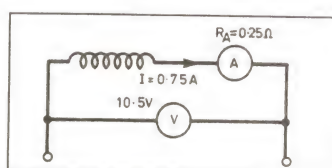

Fig. 4.2. What is the true resistance of the coil?
1. The resistance of a coil is measured using the circuit of Fig. 4.2. The ammeter has a resistance of $R_A = 0.25\Omega$ and reads $0.75A$, and the voltmeter reads $10.5V$. What is (a) the approximate resistance of the coil, (b) the actual p.d. across the coil, (c) the true resistance of the coil.